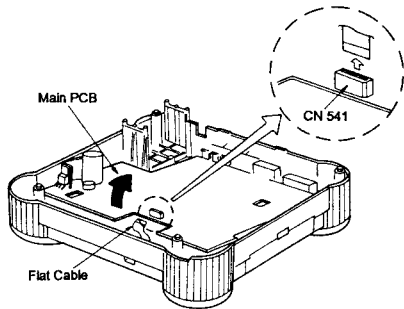

Figure 10
- (7) Gradually raise the front end of the main PCB and remove it from bottom cabinet as shown in Figure 10.